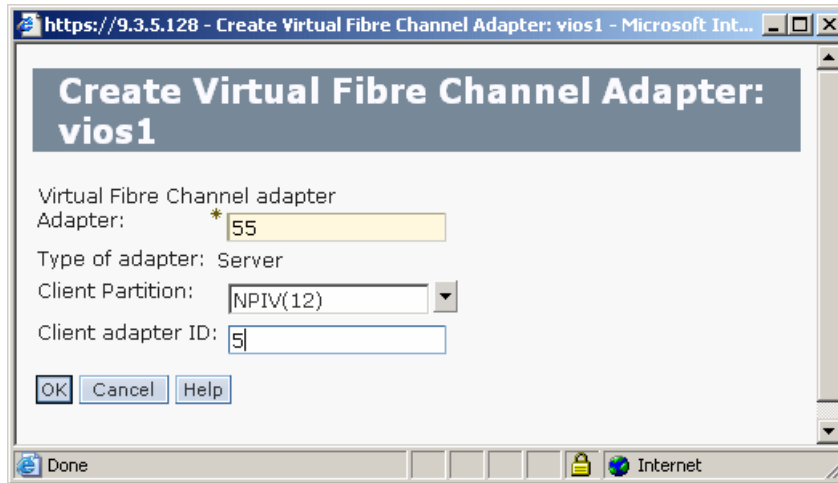

Figure 2-45 Set Adapter IDs in vios1 partition
4. Enter the Adapter ID for the virtual Fibre Channel server adapter, the name of the partition it should be connected to, and the Client Adapter ID for the slot number of the virtual Fibre Channel client adapter. Then click **OK** as shown in Figure 2-45.